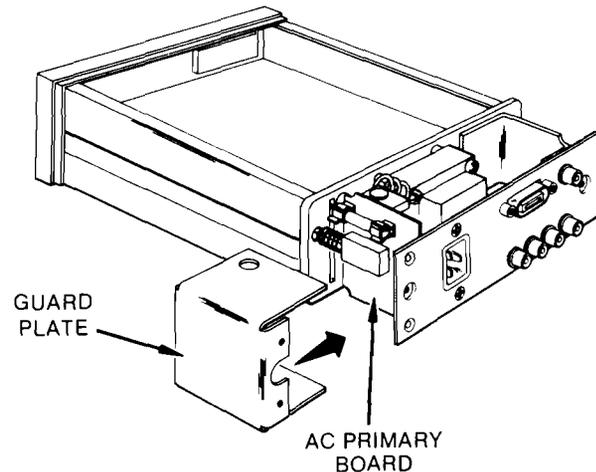
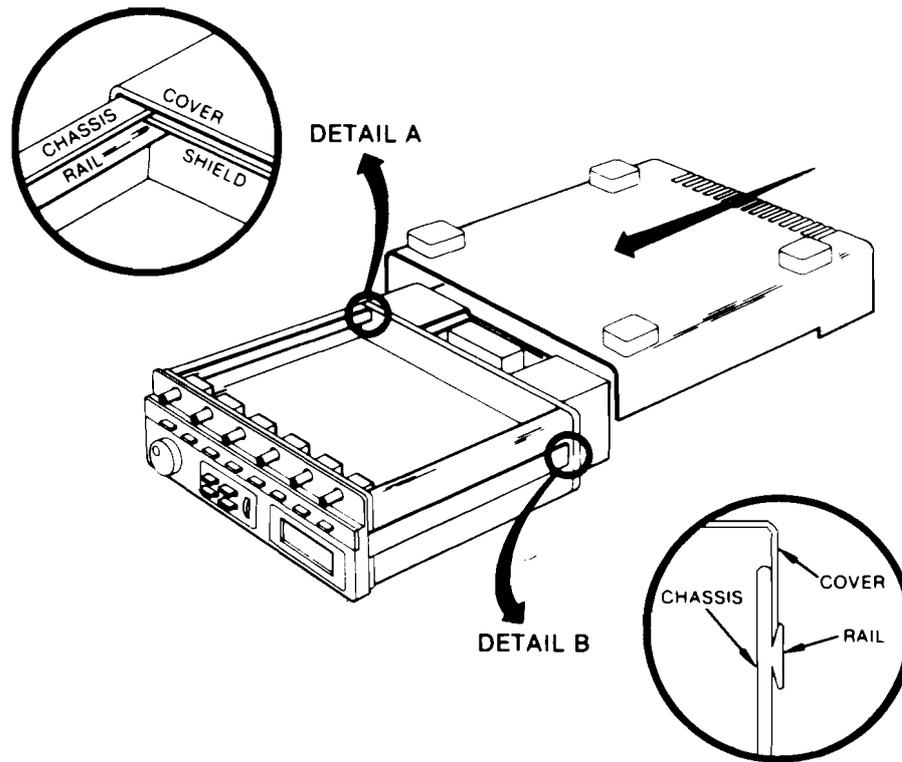

Figure 2-5. Rear Chassis Assembly
Figure 2-6. Top and Bottom Cover Installation
Refer to figure 2-5 for step 1 and figure 2-6 for steps 2 thru 5.
2. Turn the instrument upside down, position the bottom cover over the guard shield and rear panel. Slide the bottom cover forward approximately two (2) inches while engaging the top cover shield slides (see figure 2-6, detail A) and the outside slide rails (see figure 2-6, detail B).